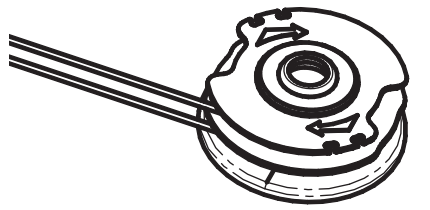

Fig. 17
7. Wind the line onto the spool by turning the spool clockwise (Fig. 17). The line should wrap snugly around the spool. Do not twist or cross the line. Wind the line until there are approximately 4 inches remaining.